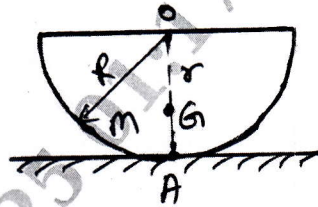

Fig.Q.4(b)
- b. Find the natural frequency of vibration of the half solid cylinder shown in Fig.Q.4(b), when slightly displaced from the equilibrium position and released by using i) Newton's method (10 Marks)